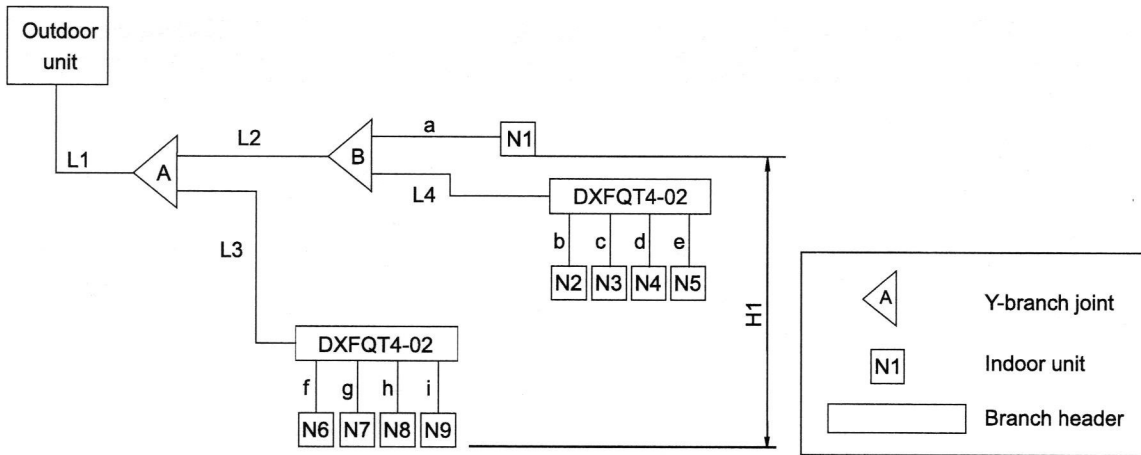

Fig.4
- 3. Restrictions of piping length and high/low difference. See Fig.4.